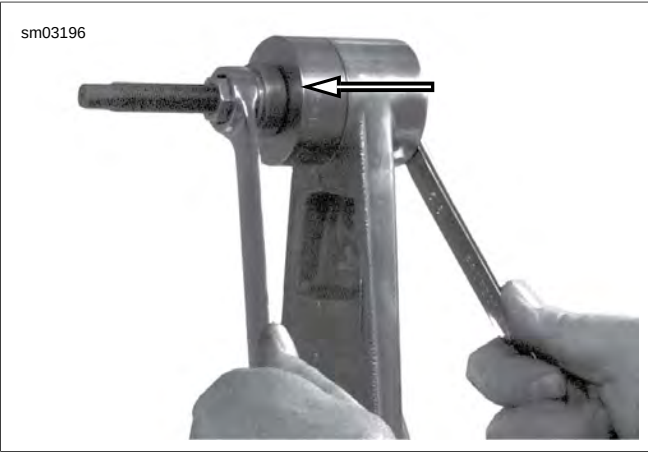

Figure 2-134. Install Right Side Bushing (typical)
1. See Figure 2-134. Load **new** bushing onto bushing remover/installer and insert into outer side of right rear fork.